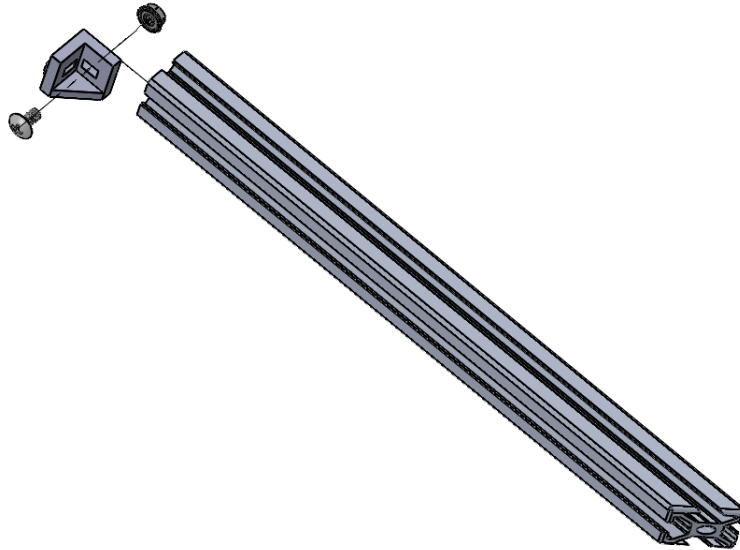

Figure 7 TRACK PROJECTION BRACKET COMPONENTS AND ARRANGEMENT
2. Find and assemble the Track Projection Brackets as shown (Figure 7 TRACK PROJECTION BRACKET COMPONENTS AND ARRANGEMENT)